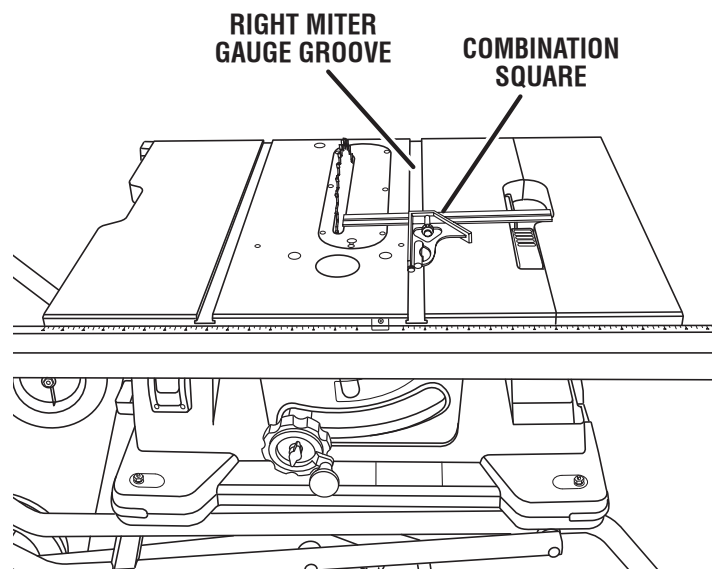

Fig. 32
See Figures 32 - 34.
- Mark beside one of the blade teeth at the front of the blade. Place the body of a combination square against the miter gauge groove as shown in figure 32. Measure the distance from the blade tooth to the right miter gauge groove.